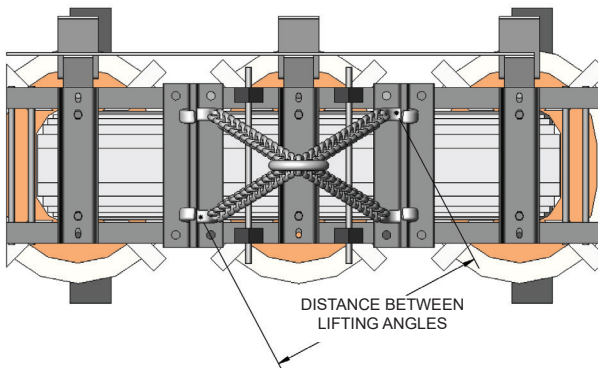
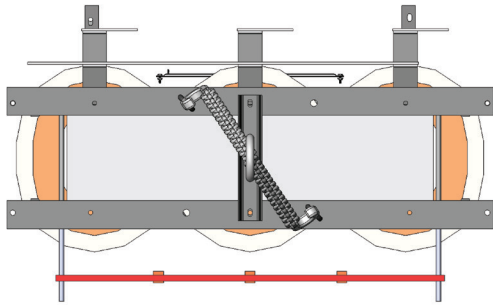

FIGURE 5
FIGURE 7
- (6) The direction of the pull (sling line) must be in-line with the plane of the eye bolts. When lifting a transformer with a 4-legged sling, align all four eyebolts to the center of the unit (see figure 5). When lifting a unit with a 2-legged sling, ensure that the eye bolts are installed at opposite corners of the unit and align to the center of the unit (see figure 7).